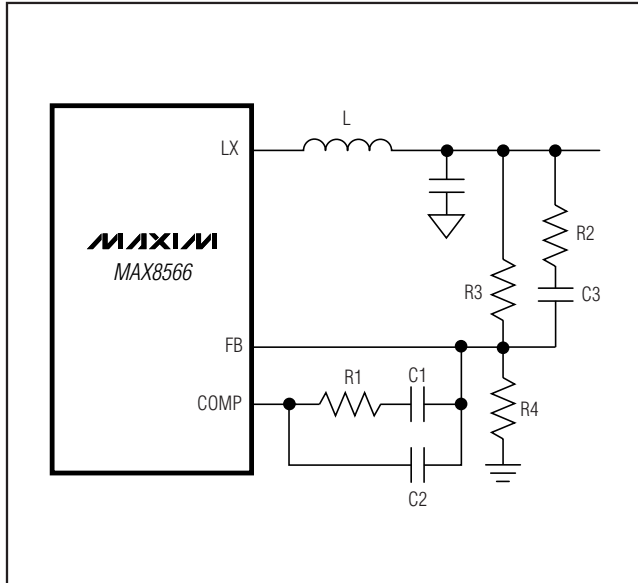

Figure 4. Type 3 Compensation Network
The high switching frequency range of the MAX8566 allows the use of ceramic output capacitors. Since the ESR of ceramic capacitors is typically very low, the frequency of the associated transfer-function zero is higher than the unity-gain crossover frequency, f_C , and the zero cannot be used to compensate for the double pole created by the output filtering inductor and capacitor. The double pole produces a gain drop of 40dB and a phase shift of 90 degrees per decade. The error amplifier must compensate for this gain drop and phase shift to achieve a stable high-bandwidth closed-loop system. Therefore, use Type 3 compensation as shown in Figure 4. Type 3 compensation possesses three poles and two zeros with the first pole, f_{P1_EA} , located at 0 frequency (DC). Locations of other poles and zeros of the Type 3 compensation are given by:
Begin by setting the desired output voltage. The output voltage is set using a resistor-divider from the output to GND with FB at the center tap (R3 and R4 in Figure 4). Use 20kΩ for R4 and calculate R3 as: